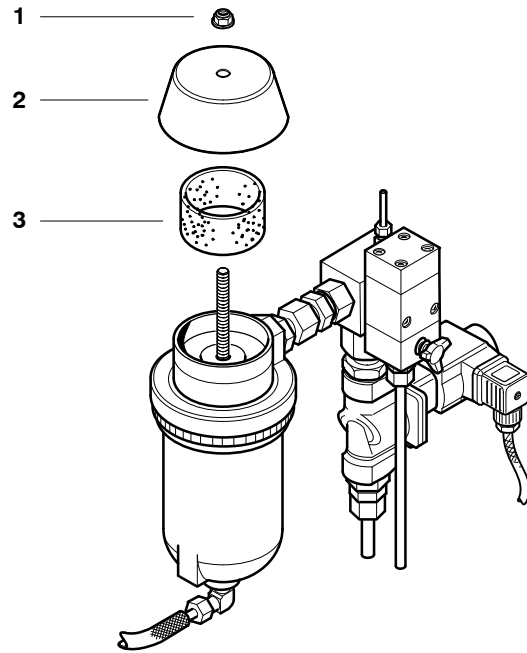

Fig. 46 Condensate separator
- Remove the self-locking nut (1, Fig. 46), the metal cover (2) and the filter (3).